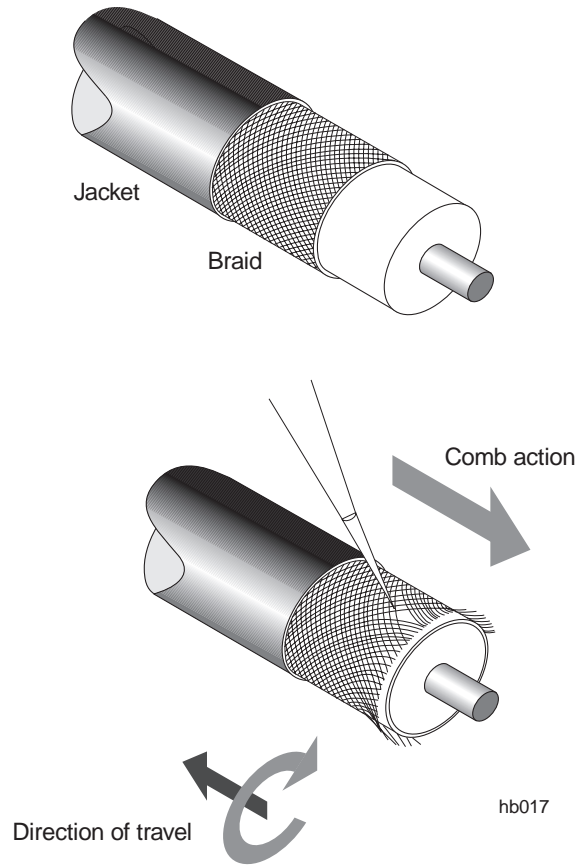

Figure C-10 Combing the braid
- a. Insert a pick or scribe into the braid and carefully comb the strands as shown in figure C-10. Start combing at the cut end. Comb the strands around the entire perimeter. Work backward, from the cut end toward the jacket—but always combing away from the jacket, as shown in figure C-10.